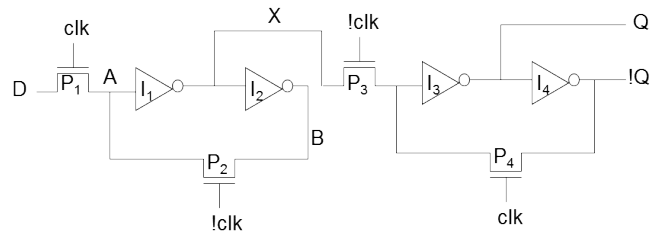

Fig. 4
- Consider the ET FF as shown in Fig. 4. Explain the relative clock conditions (clk and $!clk$) to cause the problems (a)~(c). (10%)